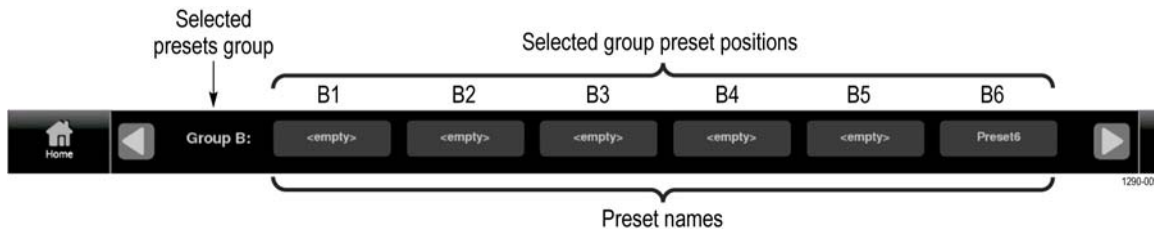

Figure 52: Preset selection controls (Group B shown)
- e. When you select OK, the preset name changes from **<empty>** to **Preset<number>**, where the number is the preset position within the preset group. (See Figure 52.)